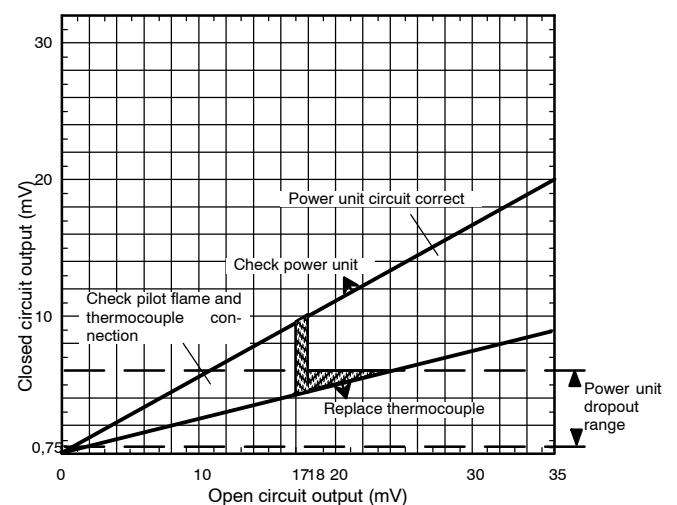
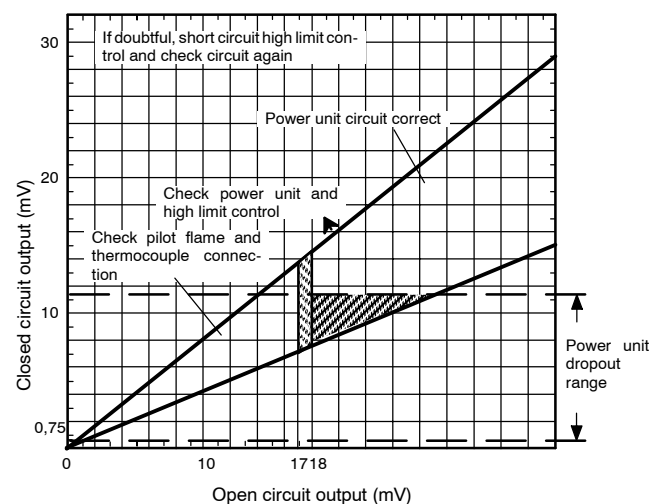

Fig. 1. Checkout chart for standard thermocouple circuit
Fig. 2. Checkout chart for thermocouple circuit with high limit control
- Check the power unit circuit operation with the aid of charts in fig. 1. and fig. 2. Use fig. 1. for a standard thermocouple circuit and fig. 2. for a circuit with high limit control as follows: